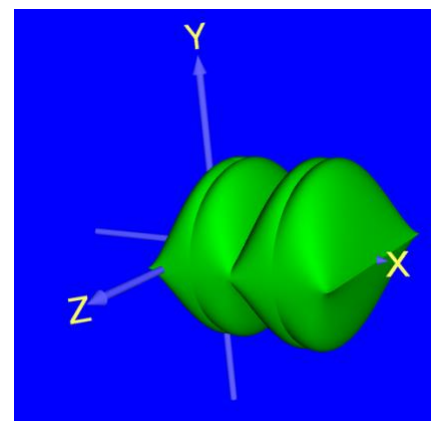

Fig 14. Solid object formed after rotational and translational sweeping with $u, w \in [0 \ 1]$, $v \in [0 \ 2]$ and resolution of $[75 \ 75]$
11. $y = \sin(x)$.wrl - Shows a solid object as per Fig 14's specifications